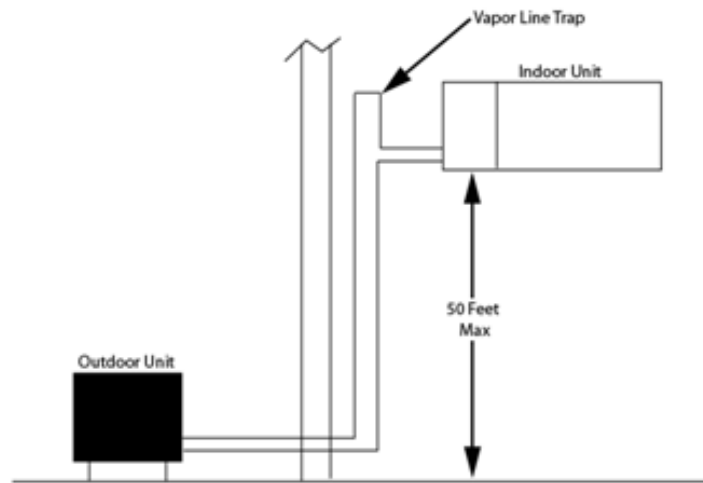

Figure 2. Air Conditioner or Heat Pump – Indoor Unit above Outdoor Unit
- An inverted vapor line trap must be installed with the top of the trap above the unit. See Figure 2.